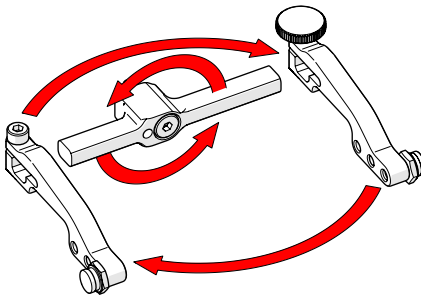

Fig. 181 - Flip yoke and reverse arms
4. Flip the yoke 180° and reverse the probe holder arms (Fig. 181).